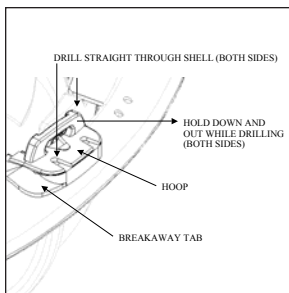

Figure 1
5. Drill mounting holes for the impact cap assembly using the hoop and the breakaway tabs mounting holes as a guide. Drill the holes straight through the shell. DO NOT angle the holes with the brim. See Figure 1.